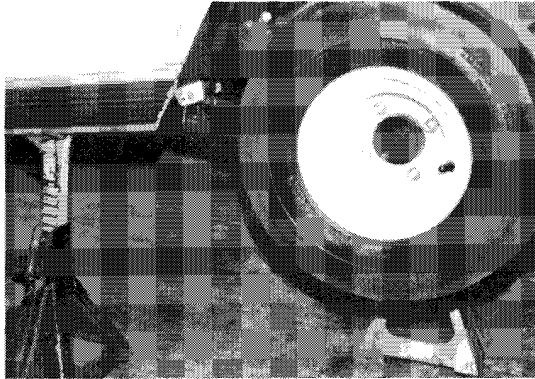

Figure 6-7
1. Lift rear of car with chain hoist or floor jack, place jack stands under frame side stringers on each side forward of each rear wheel. Lower lifting device to let jack stands support car (Figure 6-7).